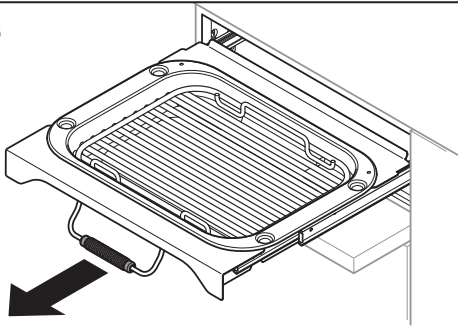

Fig. 5.6
1. To remove the broiler pan, pull the tray assembly forwards (**Fig. 5.5**) and then lift the broiler pan clear of the broiler tray assembly (**Fig. 5.6**).